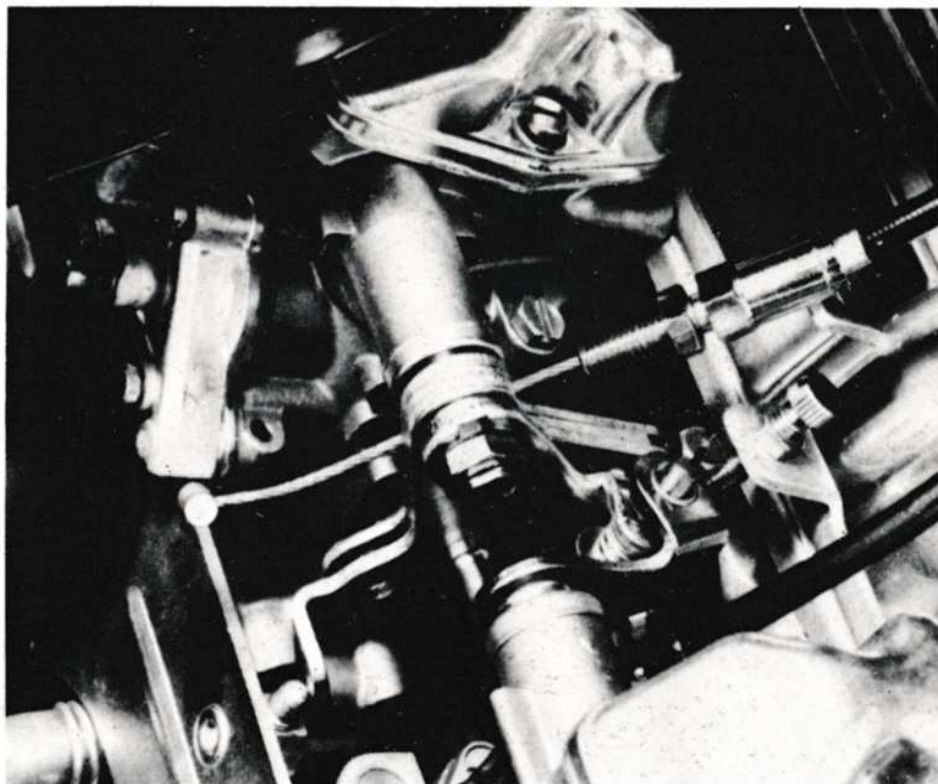

Fig. 77
**Throttle Cable Replacement.** Fig. 77
The throttle cable replacement is straight-forward: slacken both cable adjusters, rotate the throttle operating lever by hand and disconnect the cable nipple from the lever. (Fig. 77)